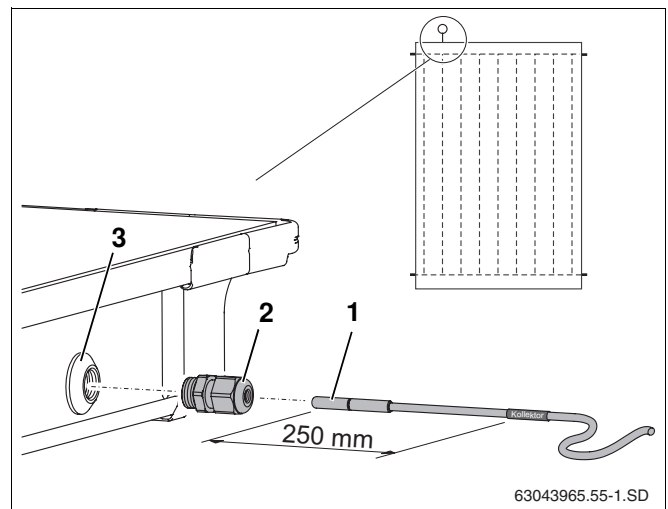

Fig. 51 Pushing the collector sensor into the collector
For perfect functioning of the solar thermal system, the collector sensor (Fig. 51, **Item 1**) needs to be inserted into the sensor guide tube as far as it will go (approx. 250 mm).
- Using the collector sensor or screwdriver, push through the sealing membrane on the sensor pocket (Fig. 51, **Item 3**).
- Screw clamped joint (Fig. 51, **Item 2**) into sensor pocket.
- Tighten clamped joint (Fig. 51, **Item 2**), counterhold if necessary.
If you accidentally push through the sensor bush (Fig. 51, **Item 3**) on the wrong collector, it can be resealed using the plug from the connection kit. However, you must first remove the nut in the sensor bush using the cable gland (Fig. 51, **Item 2**).